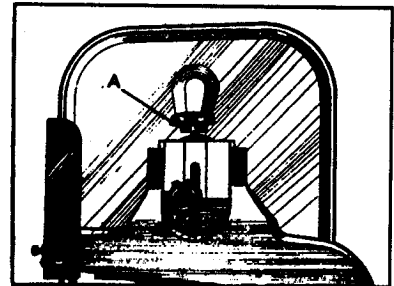

Fig.18
On the back of the upper wheel there is a slide bracket to get the proper tension for various widths of blades with the blade on the wheels, turn the star wheel (A) Fig. 18 to raise or lower the wheel until you provide the right tension to your blade. Correct belt tension is obtained when there is approximately 1" (25.4mm) deflection in the center span of the pulleys with light finger pressure. Over straining is a common cause of blade breakage and other unsatisfactory blade performance. Relax the tension when the machine is not in use.